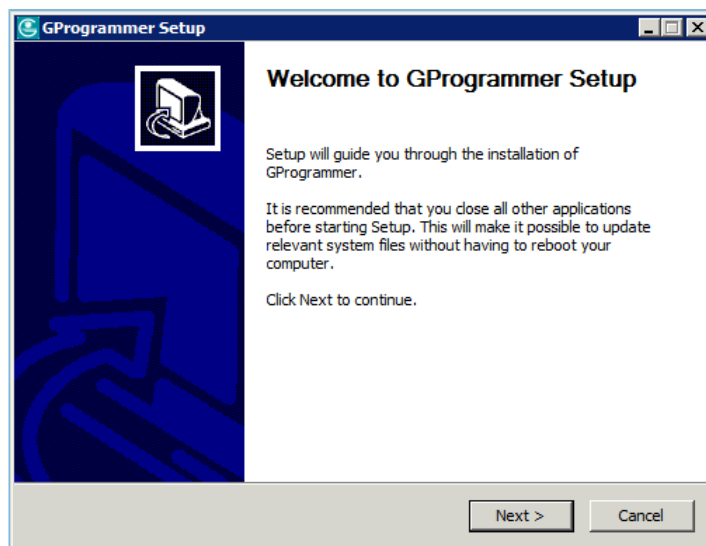

Figure 2-1 GProgrammer Setup installation wizard
1. Double-click *GProgrammer Setup Version.exe*, and follow the steps in the **GProgrammer Setup** wizard (see Figure 2-1).